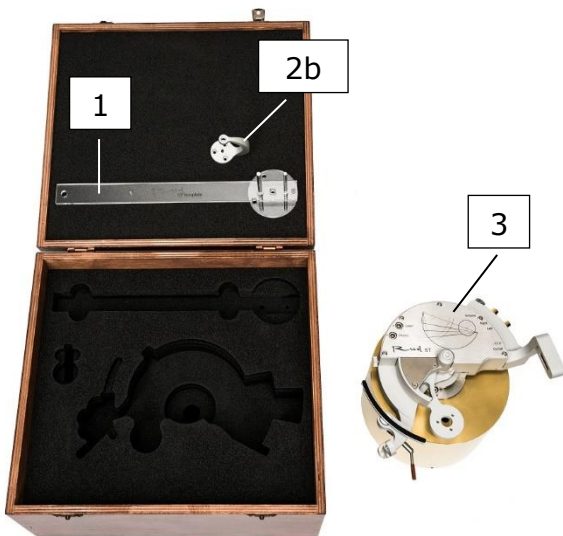

Figure 2
- b) Remove the top packaging layer. Take out the template [1], armwand base [2b] and tonearm body [3] (Figure 2).
- b) On the turntable mark three tonearm base mounting holes and center hole using Reed 5T mounting drawing and check the position with Reed 5T template [1] (Figure 2).